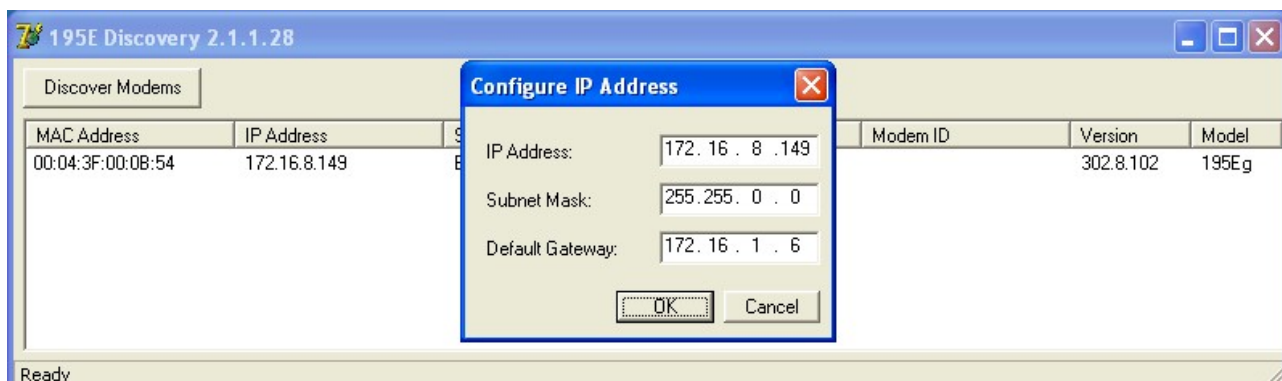

Figure 5: Change IP Address Window
- Double-click on the 195Ea you want to program and the *Configure IP Address* window will be displayed (Figure 5). Enter an IP address and Subnet Mask for the 195Ea that matches your network subnet and press the **OK** button to save this to the ESTeem. You will receive notification that the Configuration was Successful and the 195Ea will reboot.